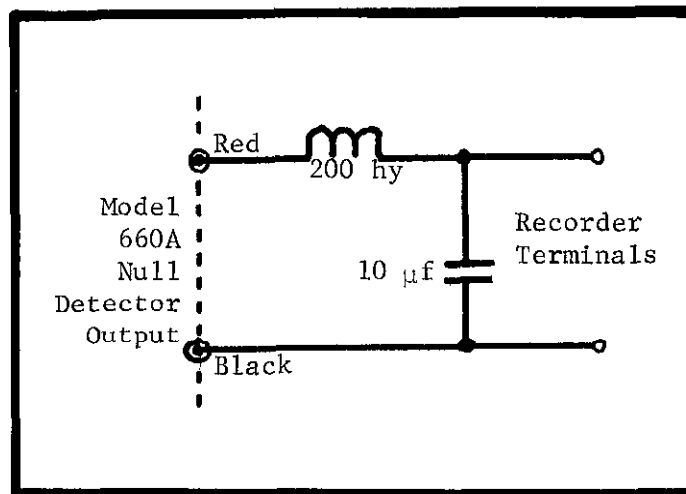

FIGURE 5. Recorder Filter. A filter between the Model 660A and the recorder may be necessary when using the 0.1-millivolt null detector range.
e. If there is substantial recorder jitter on the 0.1-millivolt null range, place a filter between the Model 660A and the recorder. Refer to Figure 5 for this connection. Note the filter must also be insulated from ground.